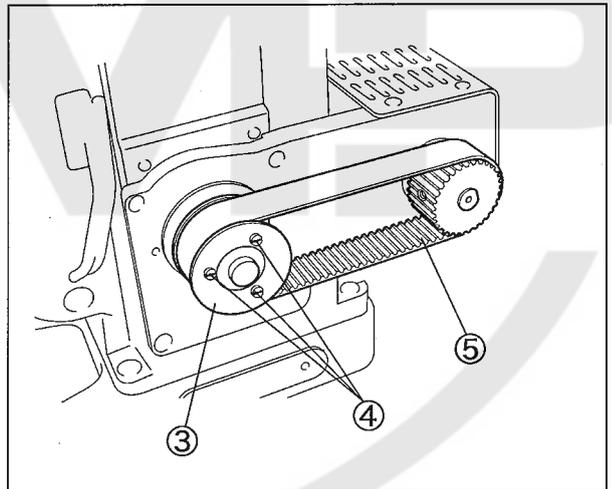

Fig. 11
2. Loosen the screws④ of pulley(front)⑦ to remove the flange③. (Fig. 11)
1. Hang the timing belt⑤ on the pulley(rear)⑥, then the other end on the pulley(front)⑦.
2. Turn the handwheel and press the timing belt⑤ until the timing belt⑤ comes to the center of machine pulley(front)⑦. Make sure that the timing belt⑤ is parallel with the motor bracket⑧.
3. Install the flange③ onto the machine pulley(front)⑦. (Fig. 11)